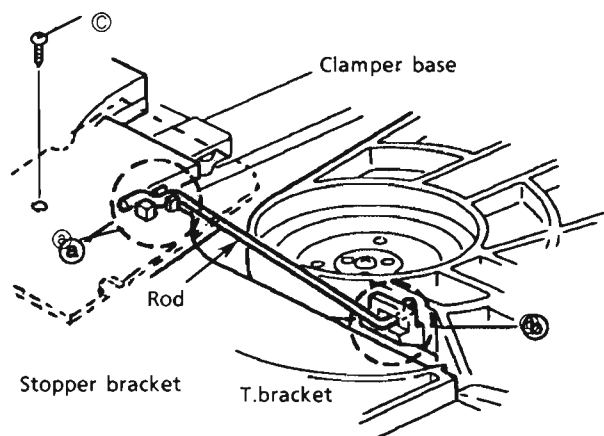

Fig. 27
2. Remove the screw ③ holding the stopper bracket.(See Fig.27) ---- (U.S.A only)
3. Remove the rod from both ends' hooks which are secured on T.Bracket ② and clamber base ①. [See Fig. 27]